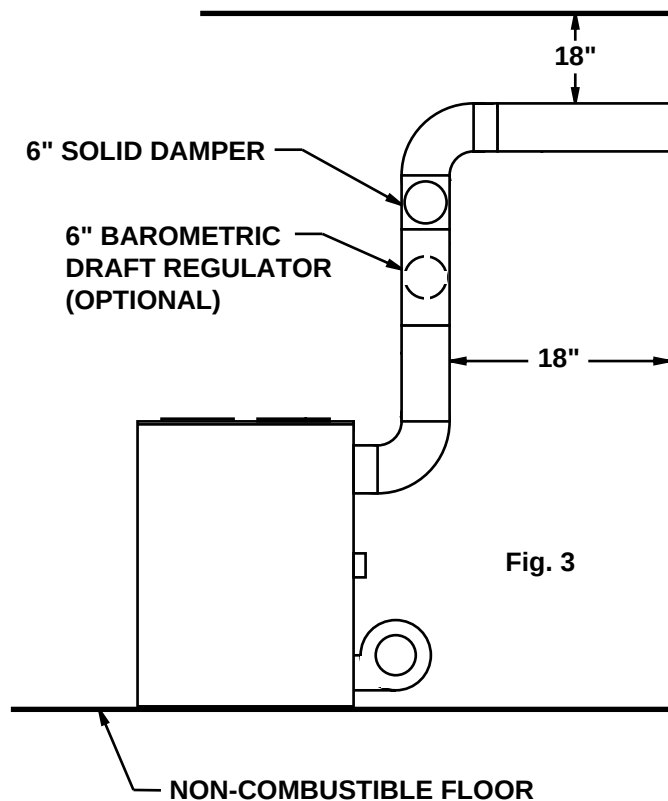

Fig. 3
3. You must have at least 18 inches of clearance between any horizontal piping and the ceiling. (See Fig. 3)